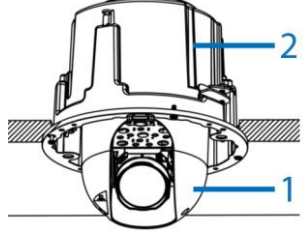

Figure 6
- Push the camera (1) (Figure 6) into the camera housing (2) (Figure 6) until it is **temporarily** secure in the camera housing.